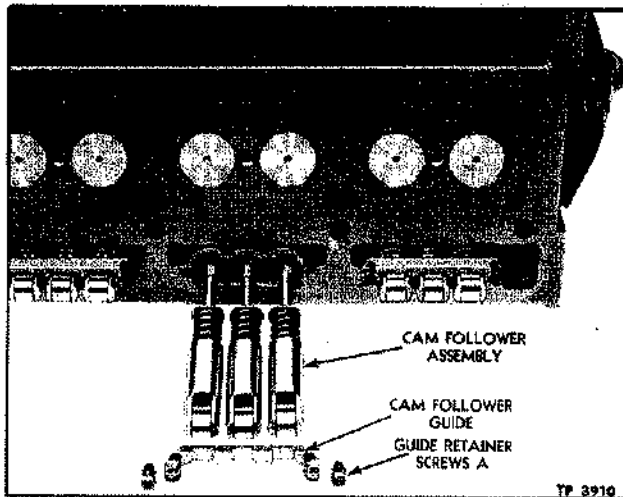

Figure 93—Cam Follower and Guide Assembly
Contact between cam followers and cam is made by a hardened steel roller. The roller is equipped with a steel-backed bronze bushing running directly on a pin in lower end of cam follower. A separate coil spring, located inside of the hollow cam follower, is held in place in cylinder head by a spring seat retainer. A drop-forged steel guide, shown in figure 93, is provided for each set of three cam followers. This guide, located on bottom of cylinder head, keeps the rollers in line with cams and also serves as a retainer during assembly and disassembly.
1. Place cylinder head on its side on bench as illustrated in figure 93. Remove two cap screws that secure cam follower guide to head, then remove guide.